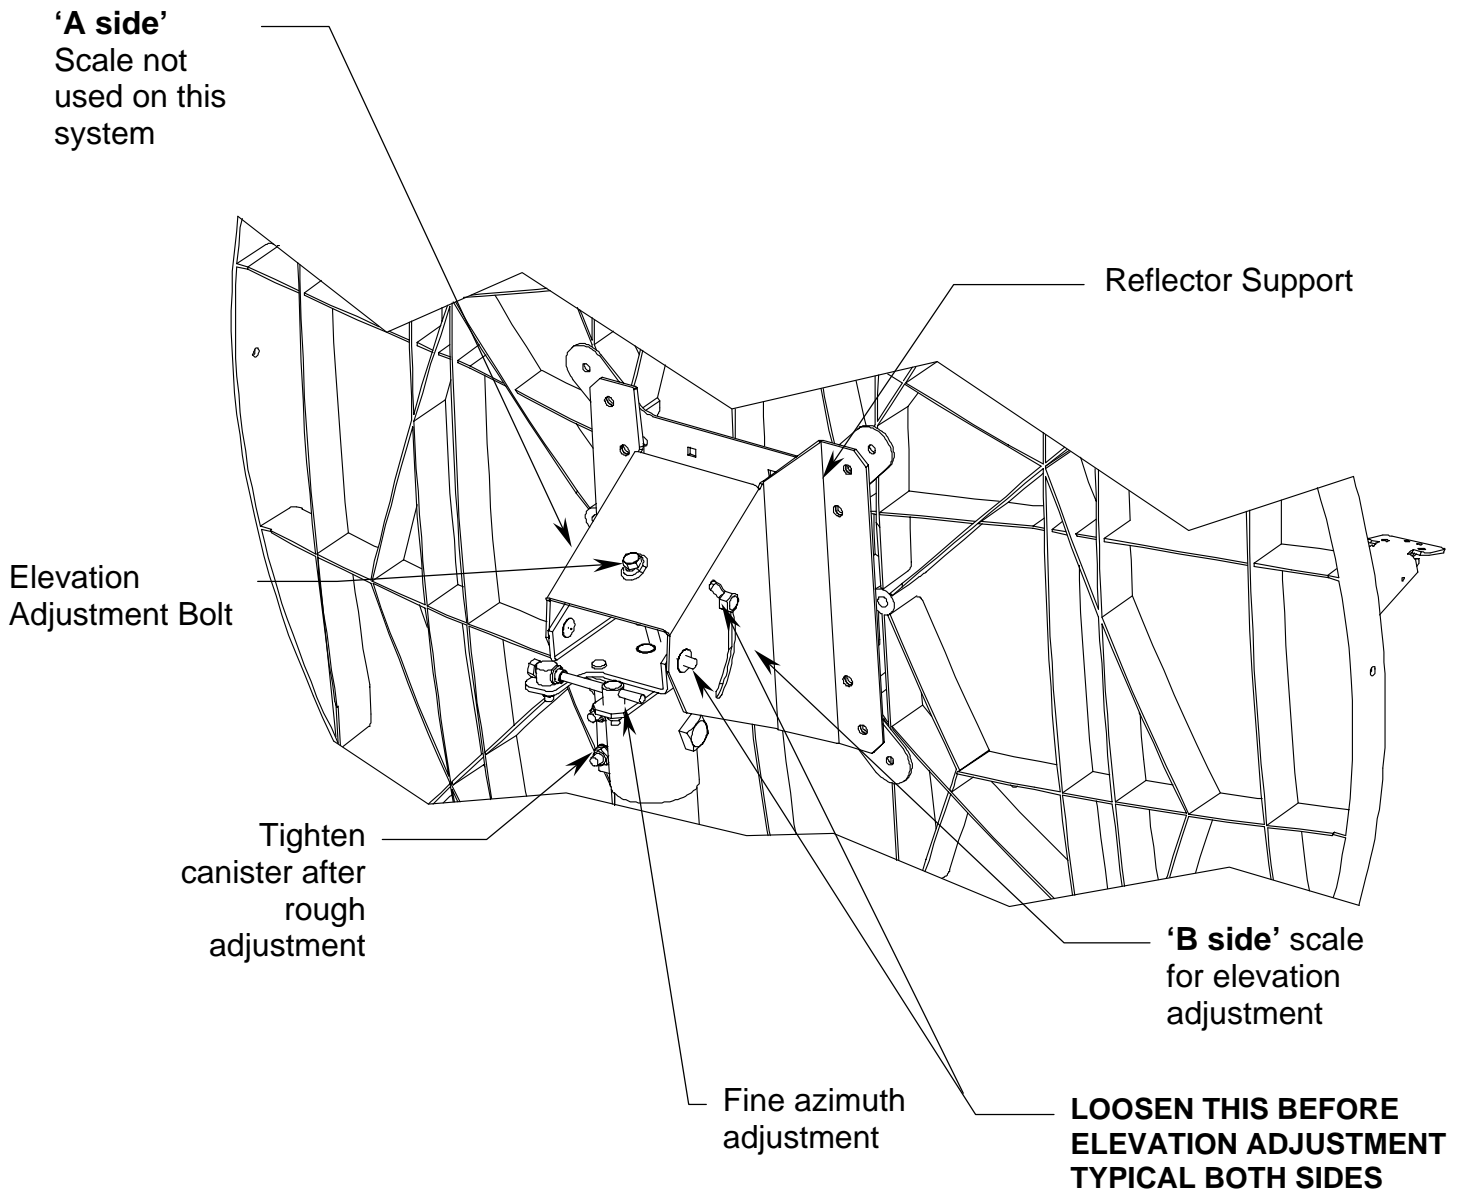

FIGURE 2.
The 1.2 meter reflector contains a 17.3° elevation offset look angle. Therefore, when the reflector aperture is perpendicular to the ground, the antenna is actually looking 17.3° in elevation. Refer to Figure 2.
STEP 1: **BEFORE ADJUSTING ELEVATION LOOSEN THE HARDWARE ON BOTH SIDES OF THE POSITIONER, REFER TO FIGURE 2 FOR LOCATION.** Adjust the reflector up or down in elevation by turning the 5/16" Bolt at the az/el positioner until the desired elevation is read on the 'B side' of the positioner. This scale is used for nominal readings and is accurate to ±2 degrees. ***Note: Elevation rod is for adjustment only, it is not intended to be part of the structural integrity of the assembly, tightening the elevation rod is not necessary.*** Snug the hardware at the side of the positioner.